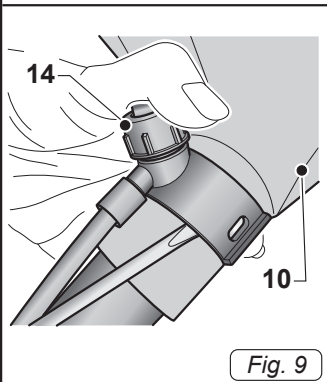

Fig. 9
- Place the nozzle (14 Fig. 9) on the mouthpiece (10 Fig. 9) hooking it into the appropriate bumps in the nozzle (10 Fig. 9).